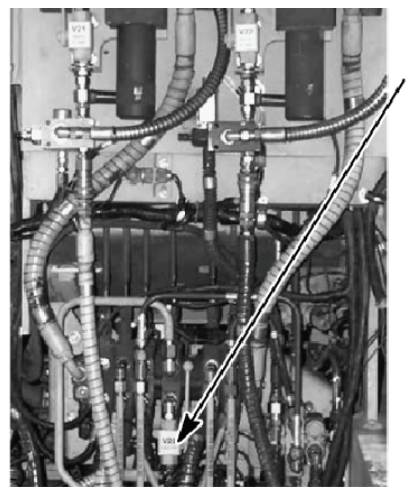

Figure 8. HDC Control Box
- Manually close ejector inhibit ball valve V23 (Figure 8, item 1) on the DCV bank.